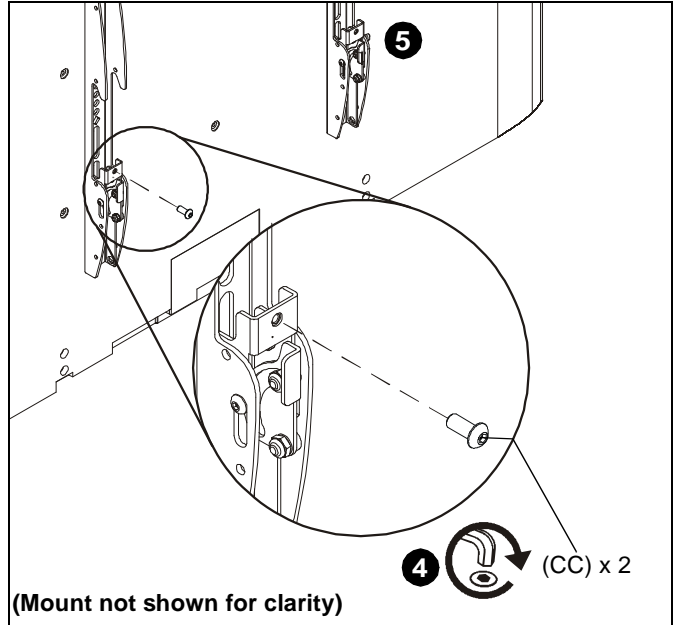

Figure 9
4. Fasten bracket against ceiling mount rail using one 10-24 x 5/8" button head cap screw (CC). (See Figure 9)